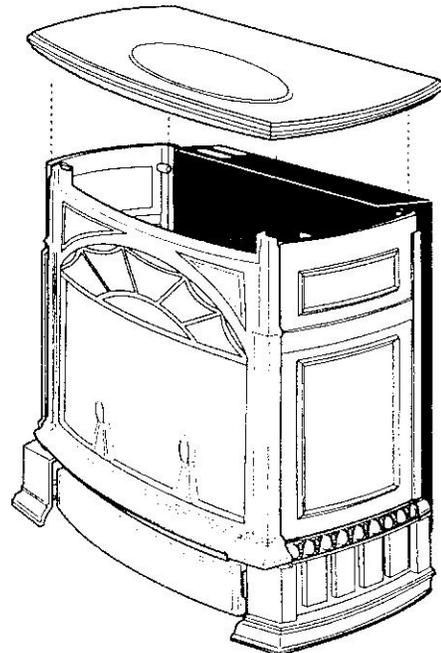

Figure 3-37. Install the Top Plate.
3. Install the Top Plate. The upper edges of the side plates should seat into the channel on the underside of the Top. Figure 3-37.